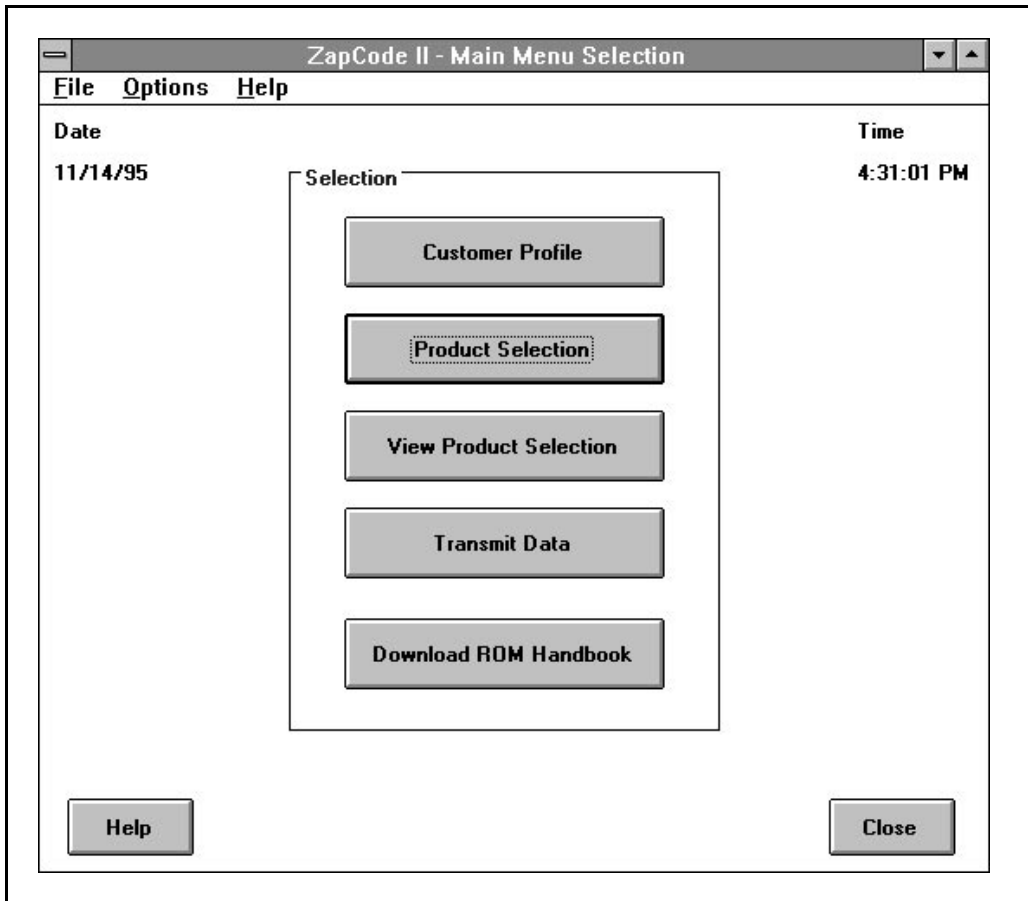

Figure 8-5. The ZapCode II Main Menu
2. Click on the **OK** button. Your modem will activate and connect you to the Intel-resident ZapCode II system. Following authentication, the Main Menu (Figure 8-5) will display on your screen.